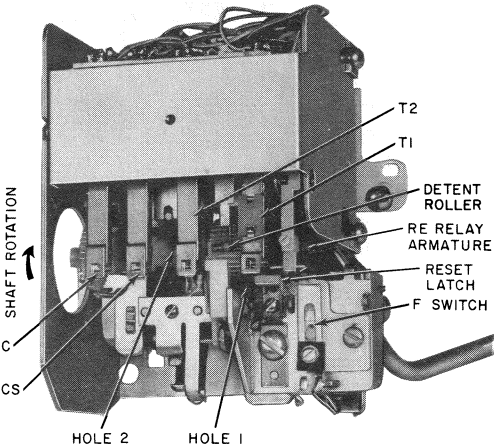

Fig. 14—Checking Totalizer Rate (Typical)
**Use extreme care when checking initial rate or resetting totalizer. Avoid damaging pawl and spring pile-ups. Do not attempt to turn totalizer cam shaft in direction opposite to that shown in Fig. 14.**
- (1) Remove chute-totalizer per paragraph 3.12.
- (2) Loosen retaining screw and remove transparent dust cover.
- (3) Rotate shaft in the proper direction (Fig. 14) until detent roller on detent wheel is positioned between the two black marks. This occurs at the same time T2 rests in depression in shaft. This position is called **home** position.
- (4) Release the reset latch by momentarily pressing downward on the armature of the RE relay (Fig. 14).
- (5) Slowly rotate shaft in proper direction, and count the steps until T1 springs operate (indicated by forward movement of reset latch).
- (6) Each step rotated from home position represents a 5-cent rate as shown in Table J.
- (1) Rotate shaft in proper direction (Fig. 14) until it is in home position as described in paragraph 3.14(3).